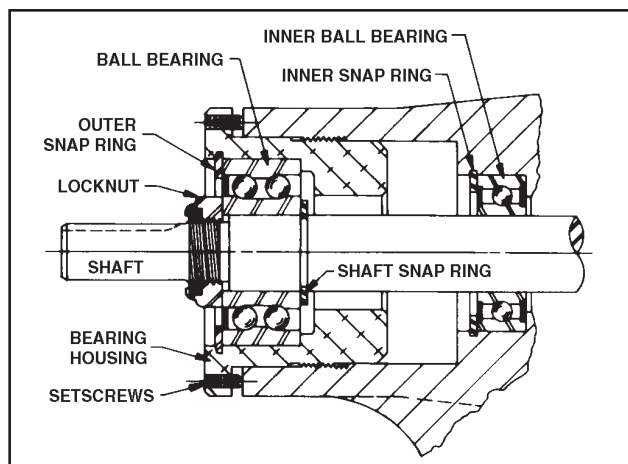
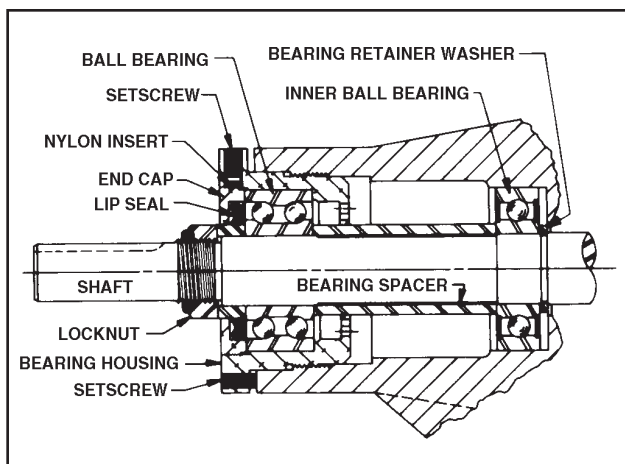

Figure 25 - Thrust-Bearing assembly (GG, HJ, HL)
Figure 26 - Thrust-Bearing assembly (AS, AK, AL)
5. Insert a brass bar or piece of hardwood in the port opening and between the rotor teeth to keep the shaft from turning. Turn the locknut counterclockwise and remove locknut. See Figure 25 or 26.
6. Loosen the two setscrews in the face of bearing housing and turn the thrust bearing assembly counterclockwise and remove from casing. See Figure 25 or 26.
7. **GG, HJ, HL:** Remove the snap ring from the shaft. See Figure 25. **AS, AK, AL:** Remove the bearing spacer from the shaft. See Figure 26.
10. **AS, AK, AL:** Remove the bearing retainer washer. The washer may have stayed with rotor and shaft when removed or is against ball bearing. See Figure 26.
GG, HJ, HL: Remove outer snap ring from the bearing housing and remove the ball bearing. See Figure 25.
AS, AK, AL: Loosen the two set screws in flange outside diameter. Rotate end cap and lip seal counterclockwise and remove. Remove the ball bearing. See Figure 26.
13. GG, HJ, HL: Install the shaft snap ring in groove in the shaft. See Figure 25.
AS, AK, AL: Install the bearing spacer over the shaft and against the single row ball bearing. See Figure 26.
assembly approximately one-half full of multi-purpose grease, NLGI #2. The thrust bearing assembly will take the remaining space. See Figures 25 and 26.
GG, HJ, HL: Install the ball bearing into the bearing housing with shield side toward the coupling end of the shaft. See Figure 25. Install the snap ring into bearing housing to retain ball bearing. This snap ring has a tapered edge to fit tapered groove in bearing housing. The tapered edge is located away from the ball bearing.
AS, AK, AL: Install the ball bearing into the bearing housing. Install the lip seal in the bearing housing end cap. The lip should face towards the end of the shaft. Put the bearing spacer collar in the lip seal and install in the bearing housing and tighten the set screws securely. See Figure 26.
Loosen two screws in face of thrust-bearing assembly. See Figures 25 and 26.